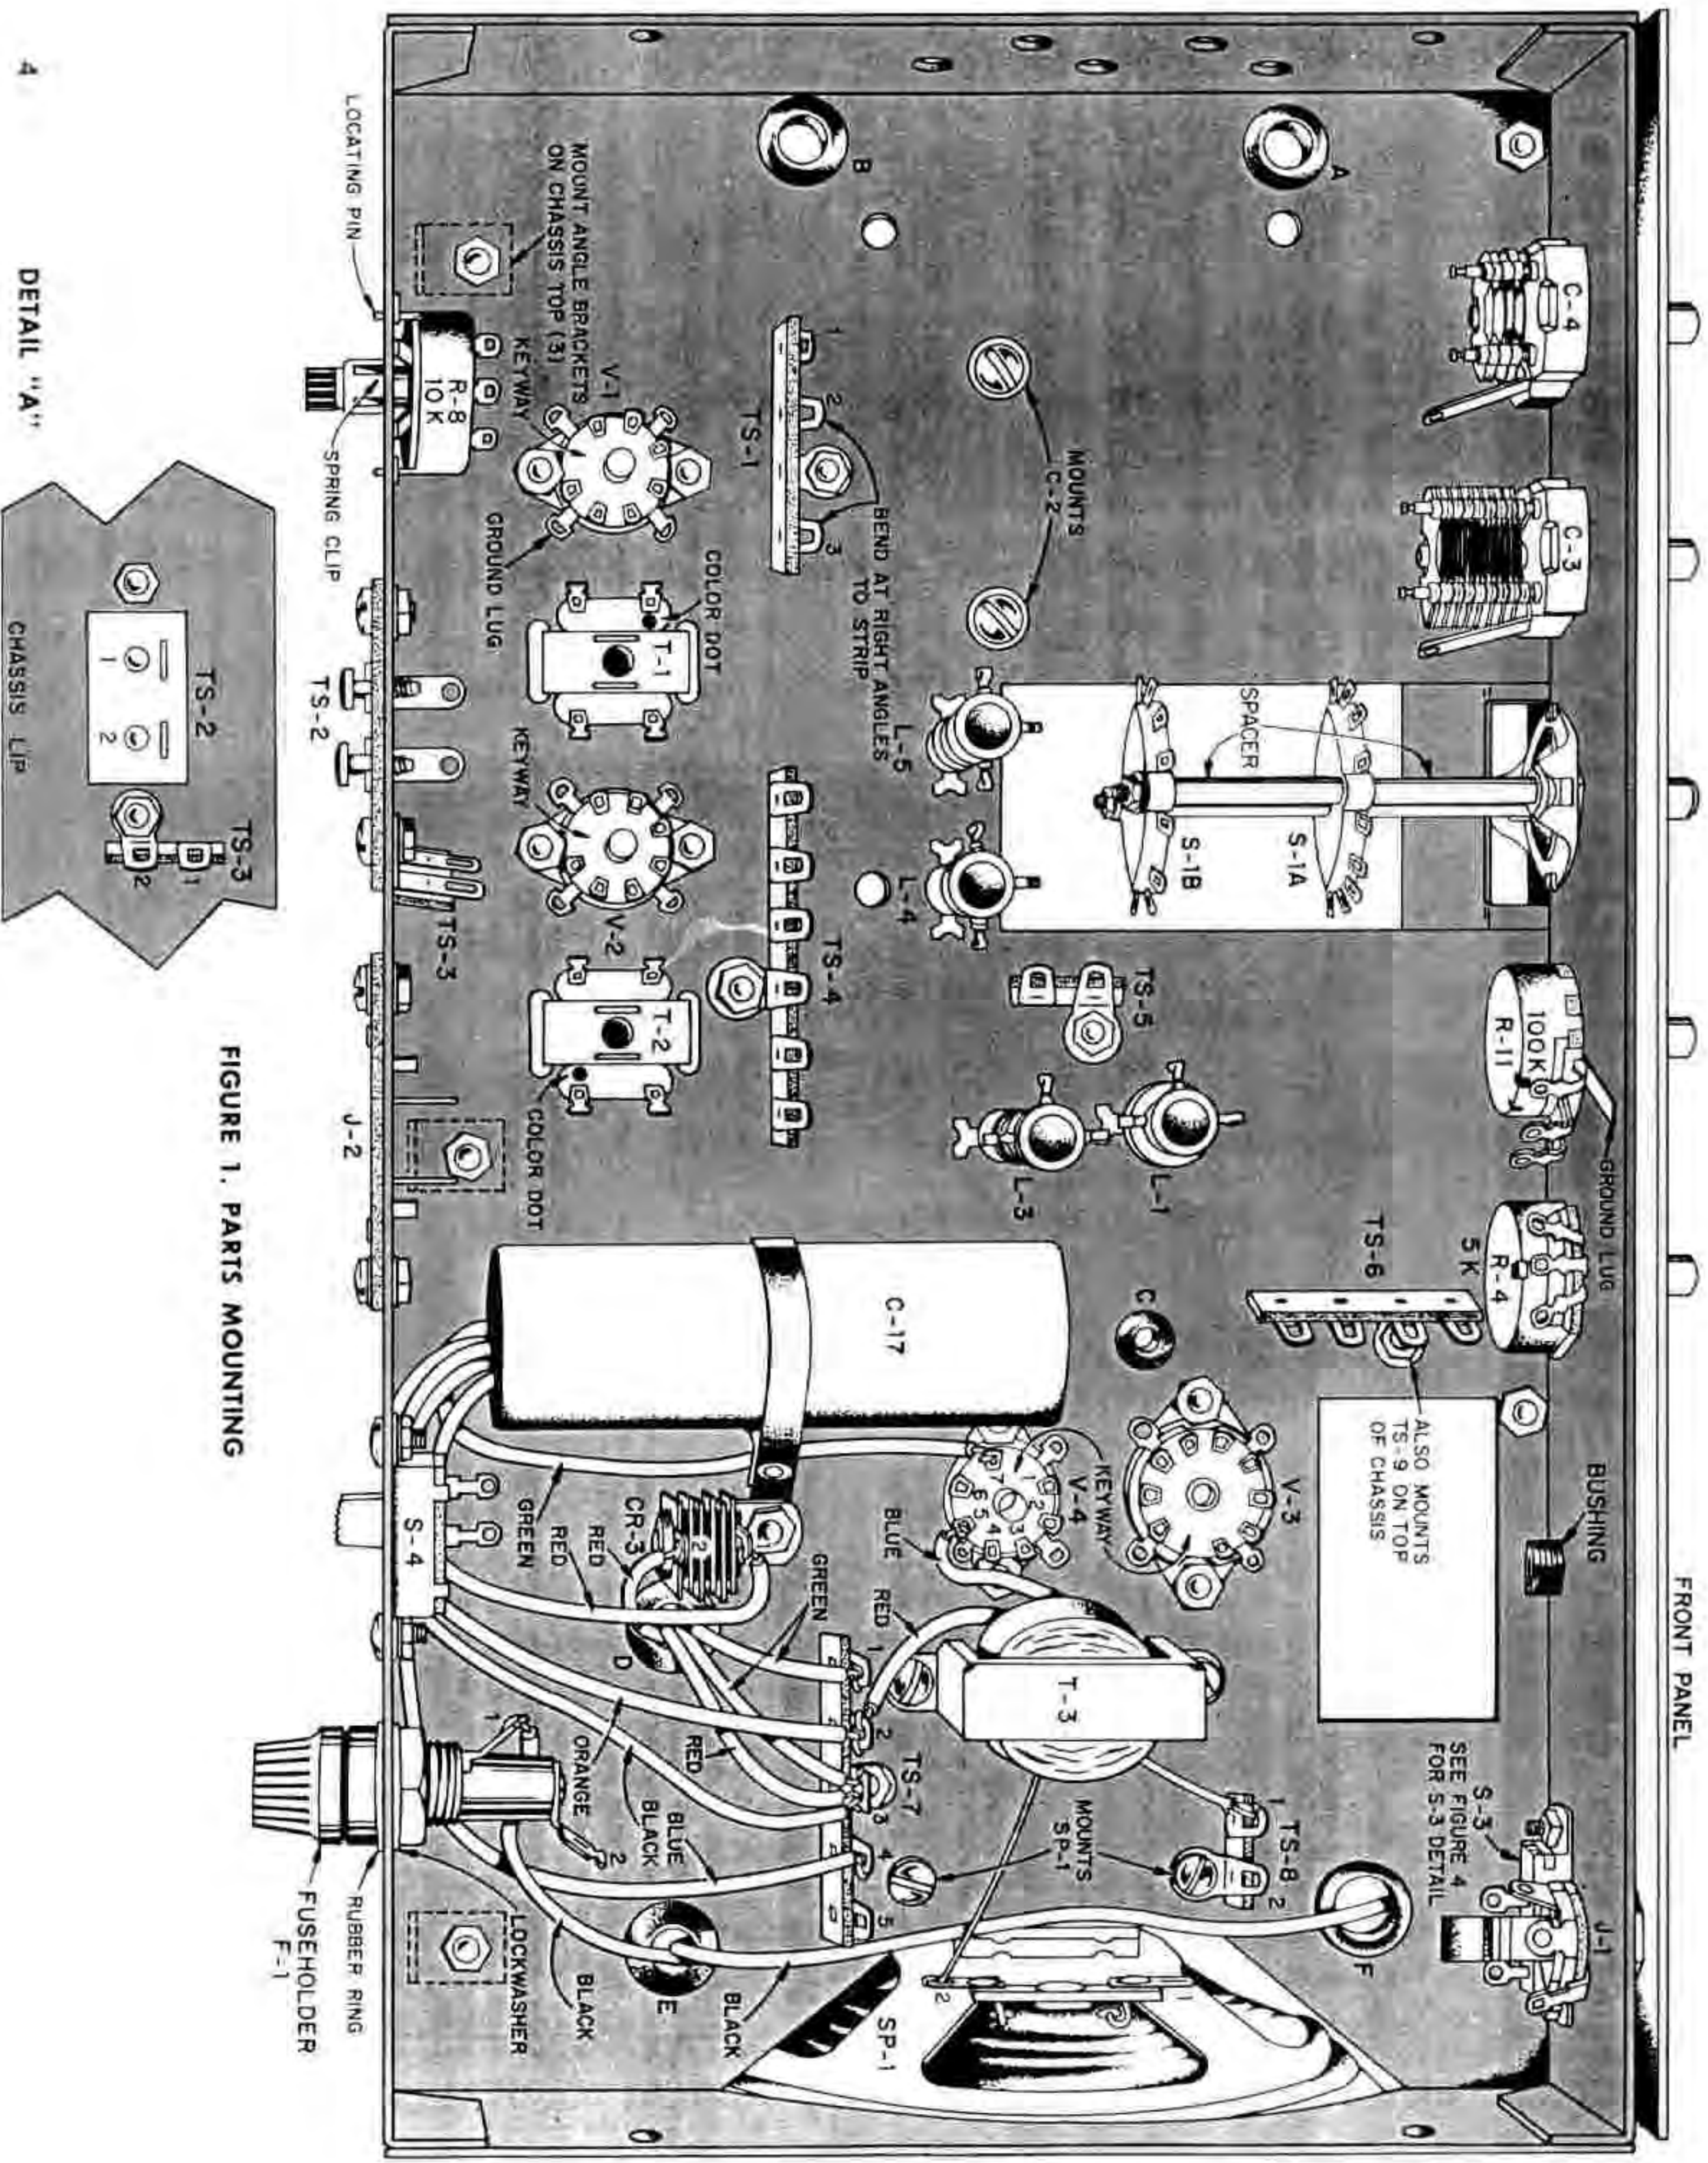

FIGURE 1. PARTS MOUNTING
SEE FIGURE 1.
- ✓ 5 large rubber grommets. Insert in holes A, B, D, E and F, as shown in Figure 1.